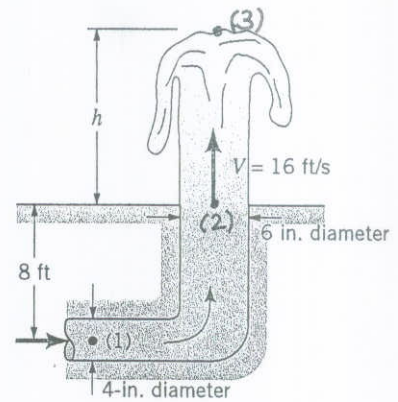

FIGURE P3.60
3.60 Water exits a pipe as a free jet and flows to a height  $h$  above the exit plane as shown in Fig. P3.60. The flow is steady, incompressible, and frictionless. (a) Determine the height  $h$ . (b) Determine the velocity and pressure at section (1).